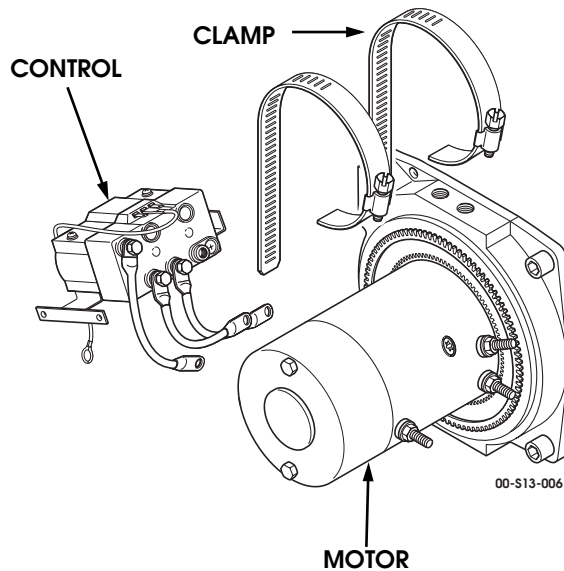

Figure 13-6: Control Unit
3. Loosen clamps and remove control from motor (Figure 13-6).